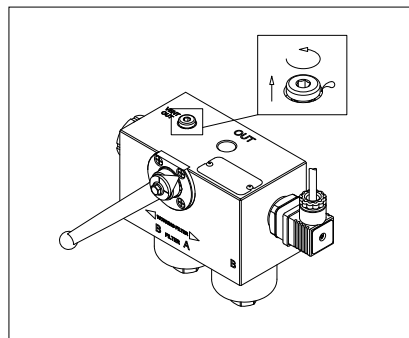

fig. 27
- (Fig. 27) Bleed the air from the system through the “Vent OUT” breather plug loose by a maximum of one turn, until the operating fluid starts oozing